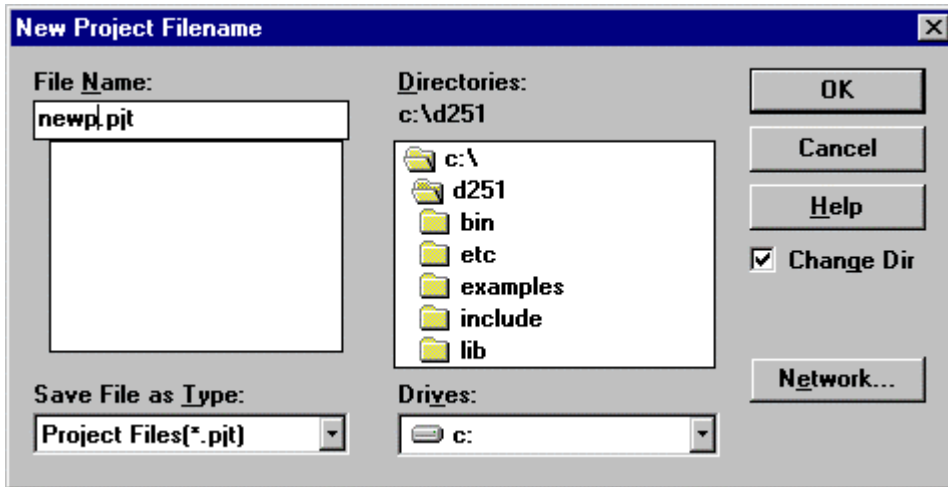

Figure 4 Browse for New Project Filename
2. Either enter the name of the project you are creating or press the Browse... button and use the dialog shown in Figure 4.